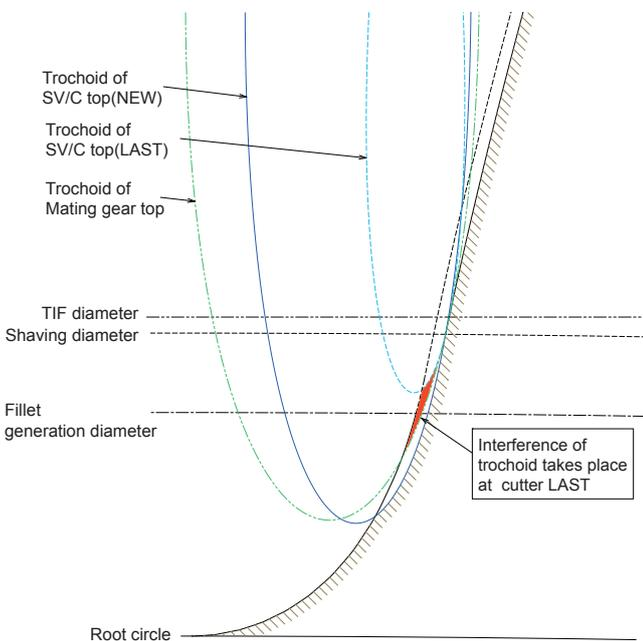

Fig.13 Trochoid chart (with interference of cutter LAST)
The reserves of ① and ② are determined by the trochoid chart which illustrates the shaving cutter and the trochoid of the tooth tips of the mating gear (See fig. 13 and 14.)
"Since the cutter develops a negative profile shift when regrinding the shaving cutter, the trochoid of the cutter moves away from the work piece according to the mating gear in the same shaving diameter and may interfere with the mating gear in the life of the cutter (See fig. 13.)